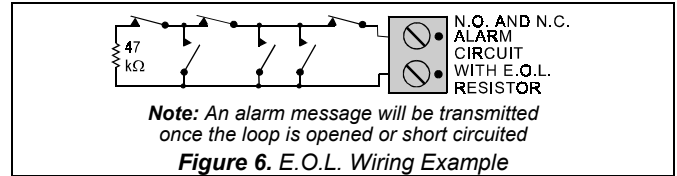

Figure 6. E.O.L. Wiring Example
- If the auxiliary input is defined as an E.O.L. type (**SW2** set to **ON**), Normally Closed (N.C.) as well as Normally Open (N.O.) sensor contacts can be used. A 47kΩ E.O.L. resistor must be wired at the far end of the zone loop, as in Figure 6.